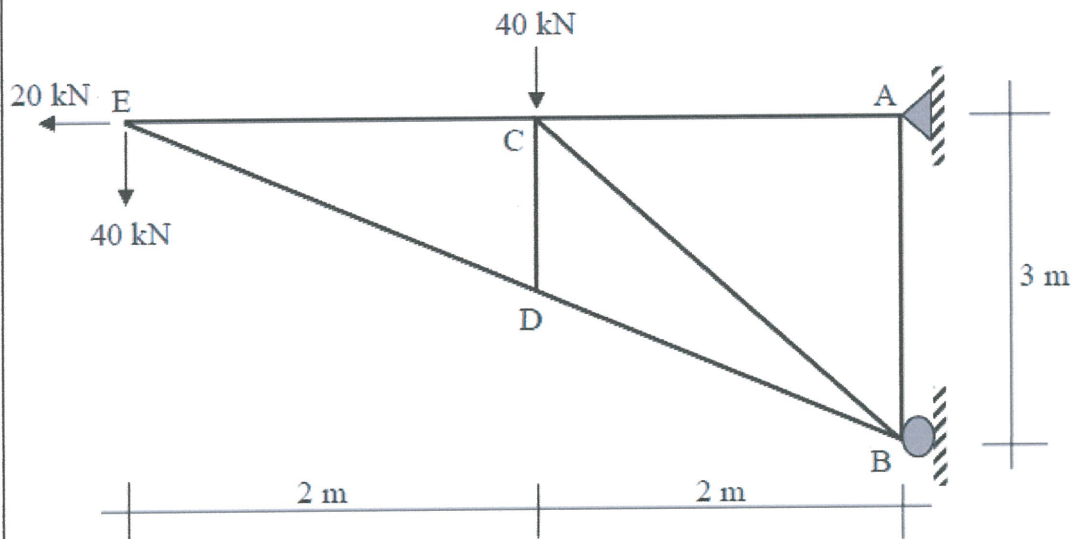

FIGURE Q6
- (b) A pin-connected truss is loaded with vertical and horizontal point load and supported as shown in **FIGURE Q6**. Calculate all internal member forces by using Method of Joint. (16 marks)